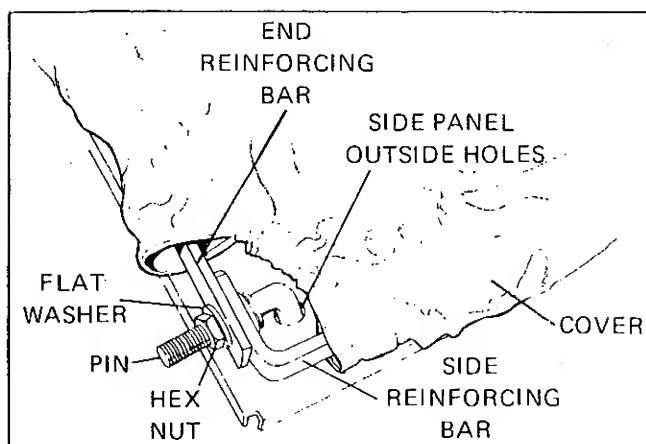

FIGURE 17
4. Align reinforcing bar holes and flat washer. From inside, insert pin through holes and secure bars and washer with a hex nut (Figure 17). Repeat procedure for all four corners.